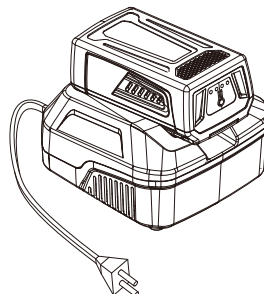

Fig.12
3) Once the battery indicator turns green and does not flash any more, the battery is fully charged and can be removed from the charger. (See Fig.12)